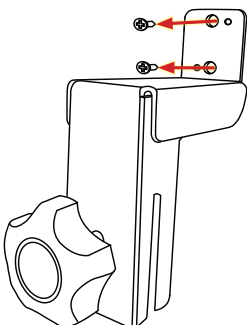

Figure 3
1. Use a phillips head screw-driver to remove the two screws located in the collar bracket. Set aside for later use (See Figure 3).